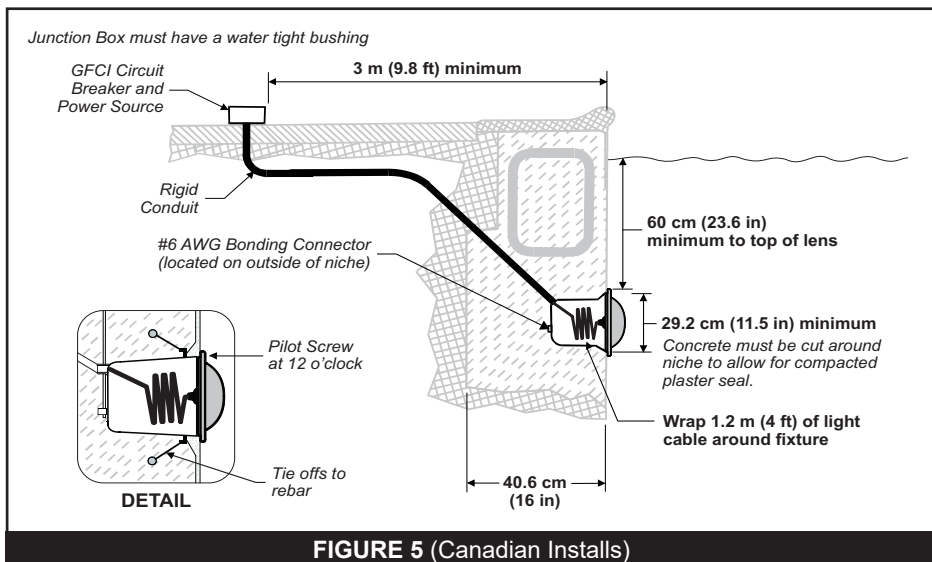

FIGURE 5 (Canadian Installs)
- The GFCI breaker or transformer must be located at least 3 meters (10 feet) from the edge of the pool/spa. Refer to *FIGURE 5 (Canadian Installs)* on page 5.
- Bond the light fixture to all other metallic items within 3 meters (9.8 feet) of the pool/spa, using a #6 AWG bond wire. The bonding lug is located at the rear of the niche. Refer to *FIGURE 5 (Canadian Installs)* on page 5.
- If non-metallic conduit is used, a #6 AWG bonding/grounding wire must be installed through the conduit from the Junction Box to the bonding/grounding lug inside the niche. Seal the bonding/grounding connection with a proper sealant to protect the connection from possible pool/spa water corrosion. Refer to *FIGURE 5 (Canadian Installs)* on page 5.
- The niche must be installed so that the top edge of the light lens, when installed, is at least 60 centimeters (23.6 inches) below the maximum water level. Refer to *FIGURE 5 (Canadian Installs)* on page 5.